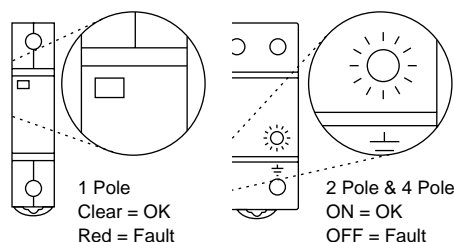

Figure 4: Indicator Diagnostics
- Clear (1 Pole), LED ON (2 & 4 Pole) = Normal Operation. (see Figure 4)